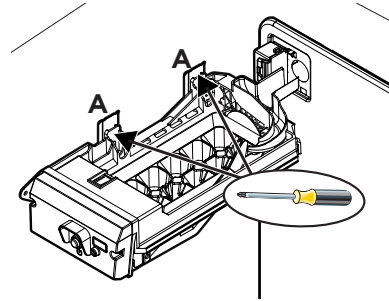

Figure 10
11. Mount the ice maker to the side wall with the 2 screws (**A**). Tighten the screws to secure the ice maker in place. See Figure 10.